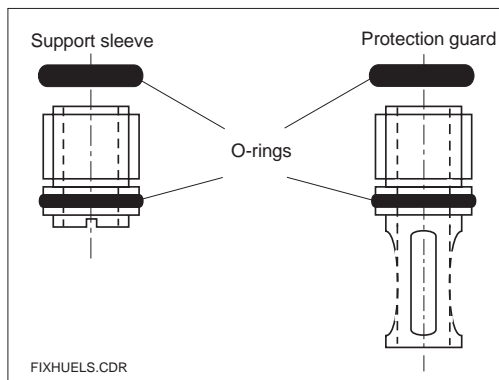

Bild 3.6 Support sleeve and protection guard
- Extremely fibrous media: Unscrew the protection guard from the lower end of the electrode guide and screw on the supplied electrode support sleeve instead (see fig. 3.6). Make sure that the O-rings are inserted.